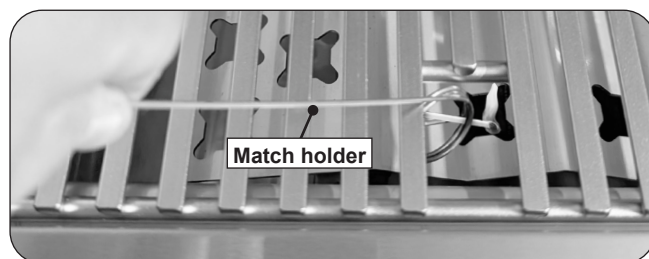

Fig. 33-2 - Manual lighting
**CAUTION:** Always wait five (5) *minutes* for gas to clear after any unsuccessful lighting attempt.
2. Insert either a burning long-barrel butane lighter, a burning long-stem match, or a burning match held by a wire extension holder through the cooking grids to the burner (Fig. 33-2). For backburners, hold the flame against the perforated material of the backburner.
**CAUTION:** If the burner does not light within five (5) *seconds* of turning the control knob, **immediately depress the knob and turn the valve to OFF. WAIT FIVE (5) MINUTES** before repeating steps 2 and 3 of the **MANUAL LIGHTING** instructions.